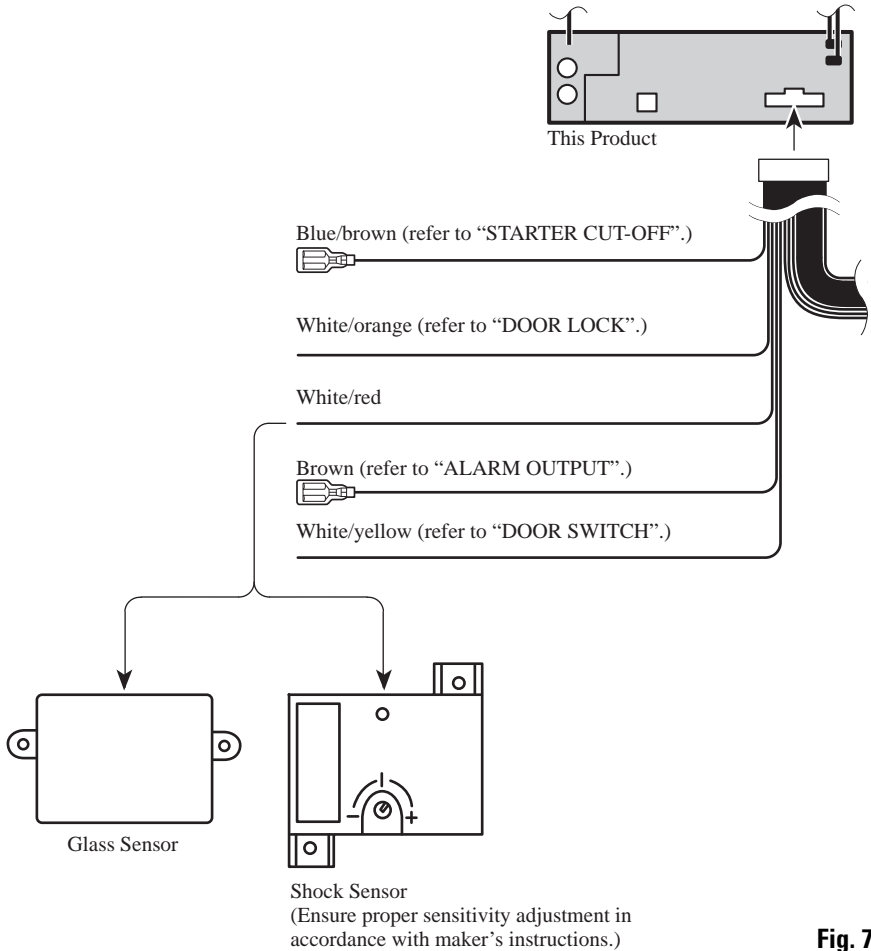

Fig. 7
- **White/red (ALARM SENSOR)** (Fig. 7)